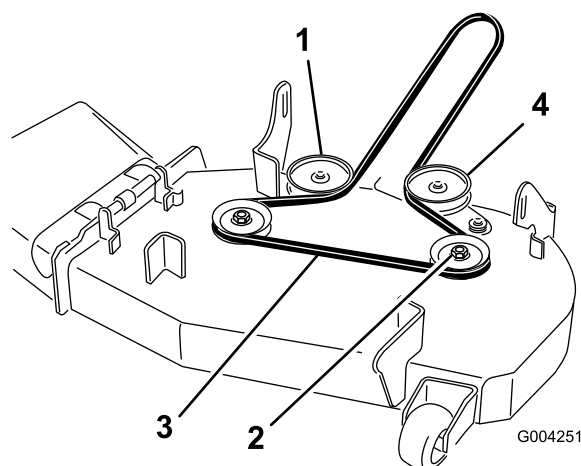
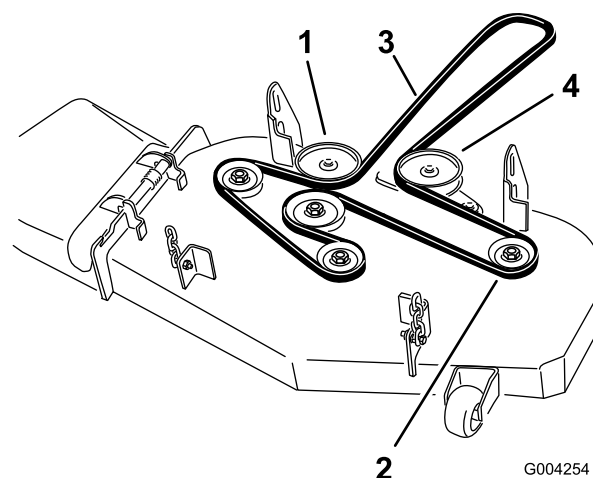

Figure 42
Figure 43
- Pull on the idler arm to relieve the belt tension on the left spindle pulley (Figure 42 or Figure 43).
- Install the new belt around the pulleys (Figure 42 or Figure 43).